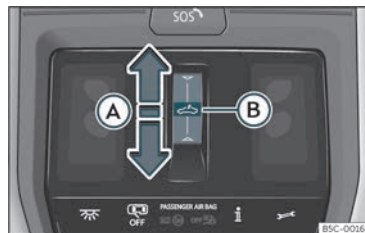

Fig. 87 On the interior roof lining: sunroof button.
- »» Fig. 87 (A).
» » Fig. 87 (A) and keep pressed until the sunroof is fully closed.